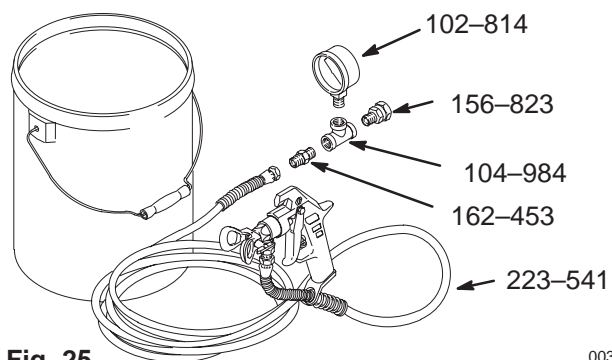

Fig. 25
2. Set up the system as shown in Fig. 25.